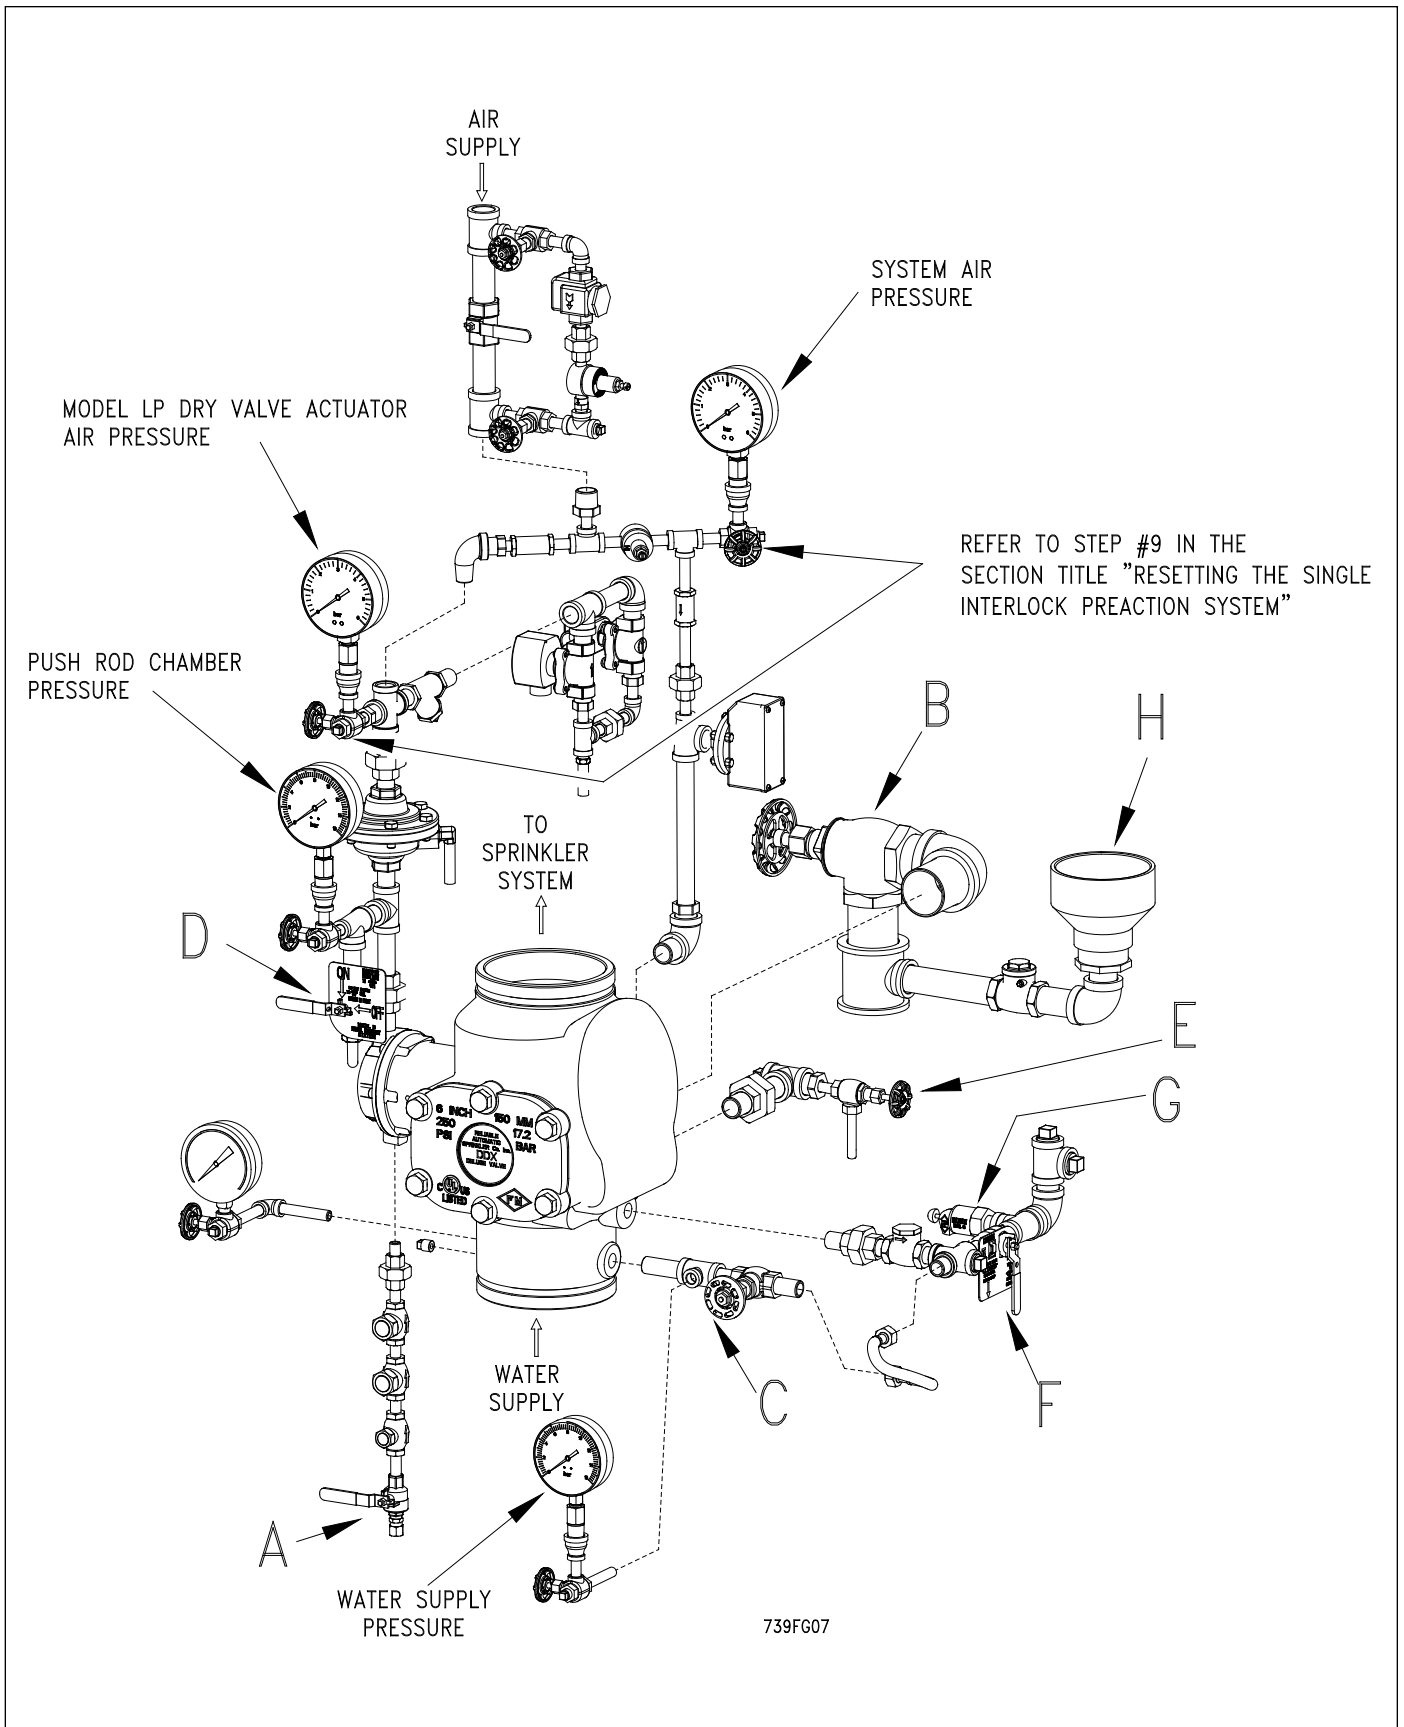

Fig. 7
- Close the main valve controlling water supply (Fig. 7) to the Deluge Valve and close off the air supply to the sprinkler system at the air supply's source.
- Close the pushrod chamber supply valve, valve A (Fig. 7).
- Open the main drain valve, valve B (Fig. 7), and drain sys-
- Open all drain valves and vents at low points throughout the system, closing them when flow of water has stopped. Open valve D (Fig. 7). **Note:** The above steps accomplish the relieving of pressure in the pushrod chamber of the Deluge Valve.
- With Valve F (Fig. 7) open, push in the plunger of ball drip valve, valve G (Fig. 7), to force the ball from its seat, and drain any water in the alarm line.
- With the Model B Manual Emergency Station, valve D (Fig. 7), open, push in and rotate the deluge valve's external reset knob (#38, Fig. 6) clockwise until you hear a distinct clicking noise, indicating that the clapper has closed. **Note:** The reset knob can be rotated only after pressure in the pushrod chamber has been reduced to atmospheric conditions (0 psig).
- Close valve F (Fig. 7). Activate a solenoid-release pull station (Or other means of electric detection.) to energize the solenoid valve(s). Silence any alarms or audible tones on the releasing/control panel. Open valve A (Fig. 7) to begin pressurizing the push-rod chamber and its associated piping, while simultaneously venting any entrapped air. **Note:** This venting of the air from the actuation piping is very important to ensure proper system operation and avoidance of falsely tripping the Deluge Valve.
- Upon seeing a solid flow of water from the drain tubing, and the cessation of the "gurgling" sound at the drip cup, H (Fig. 7), close valve D (Fig. 7) then rapidly apply compressed air or nitrogen into the to chamber of the Model LP Dry Valve Actuator until the pressure conforms to Table A levels as indicated on the air pressure gauge. The Model LP Dry Valve Actuator will close during this pressurizing process and the water will stop flowing into the drip cup. At this point, the pressure gauge which indicates push-rod chamber pressure (Fig. 7) will equalize to the available water supply pressure. **Note:** It may be necessary to isolate the various pressure gauges in the trim during system set-up by closing the 1/4" 3-way valves (#68 Fig. 2) that they are connected to. During set-up, pressure fluctuations may occur that can be potentially damaging to the gauges.
- Open valve F (Fig. 7). Open slightly the main valve controlling water supply (Fig. 7) to the deluge valve, closing drain valve B (Fig. 7) when water flows. Observe if water leaks through the ball drip valve, valve G (Fig. 7), into the drip cup, H (Fig. 7). If no leak occurs, the seluge valve's clapper is sealed. Open slowly, and verify that the main valve controlling water supply is fully opened and properly monitored.
- Verify that valve A (Fig. 7) and valve F (Fig. 7) are open.
- Secure the handle of the Model B Manual Emergency Station, valve D (Fig. 7), in the OFF position with a nylon tie (#64, Fig. 2).
2. **Alarm line** — be sure that valve F (Fig. 7) is opened and remains in this position.
3. **Other trimming valves** — check that valve A (Fig. 7) is open as well as all of the pressure gauge's 1/4" 3-way valves. Valves C, D, and E (Fig. 7) should be closed.
4. **Ball drip valve, valve G (Fig. 7)** — make sure that valve F (Fig. 7) is open. Push in on the plunger to be sure the ball check is off its seat. If no water appears, the deluge valve's water seat is tight. Inspect the bleed hole (see Fig. 7) on the underside of the deluge valve's push rod chamber for leakage.
5. **System pneumatic pressure** — check the Model LP Dry Valve Actuator's air pressure gauge (Fig. 7) and water supply pressure gauge (Fig. 7) for conformance to Table A.
6. **Releasing device** — Model LP Dry Valve Actuator (Fig. 7). Verify that the outlet is not leaking water. Check the Model LP Dry Valve Actuator's air pressure gauge (Fig. 7) for proper pressure settings. Verify that the tubing line from the actuator is not pinched or crushed, which could prevent proper operation of the deluge valve.
7. **Testing alarms** — make sure that valve F (Fig. 7) is open. Open valve C (Fig. 7) permitting water from the supply to flow to alarm portion of the trim. Typical devices that are connected to this section of the trim are pressure switches and/or a mechanical sprinkler alarms (water motor). After testing has been completed, close this valve securely. Push in on the plunger of ball drip valve G (Fig. 7) until all of the water has drained from the alarm line.
8. **Operational test** — Open the Model B Manual Emergency Station, valve D (Fig. 7). **Note:** An operational test will cause the deluge valve to open and flow water into the sprinkler system.
9. Secure the Model B Manual Emergency Station, valve D (Fig. 7), in the OFF position with a nylon tie (#64, Fig. 2) after the deluge valve is reset.
Refer to Fig. 7
2. Leakage out of the ball drip valve G (Fig. 7).
b. Leakage, air or water from the ball drip valve, G (Fig. 7):
- A) Shut down the valve controlling the water supply to the Deluge Valve and open the main drain valve B (Fig. 7). Open the water column drain valve E (Fig. 7). Close the push rod chamber supply valve A (Fig. 7) and open the Model B Manual Emergency Station D (Fig. 7).
- A) Shut down the valve controlling water supply to the deluge valve. Relieve the inlet pressure by opening the main drain valve B (Fig. V). Close valve A (Fig. 7), the valve that supplies water to the push rod chamber, and open the Model B Manual Emergency Station, valve D (Fig. 7).
Refer to Figs. 7 and 8
2. Close the main valve controlling water supply (Fig. 7) to the Deluge Valve and close off the air/nitrogen supply to the sprinkler system. Close valve A (Fig. 7).
3. Drop pressure in the system by opening the 1/4" angle valve, valve E (Fig. 7), and remove the Actuator from the system.